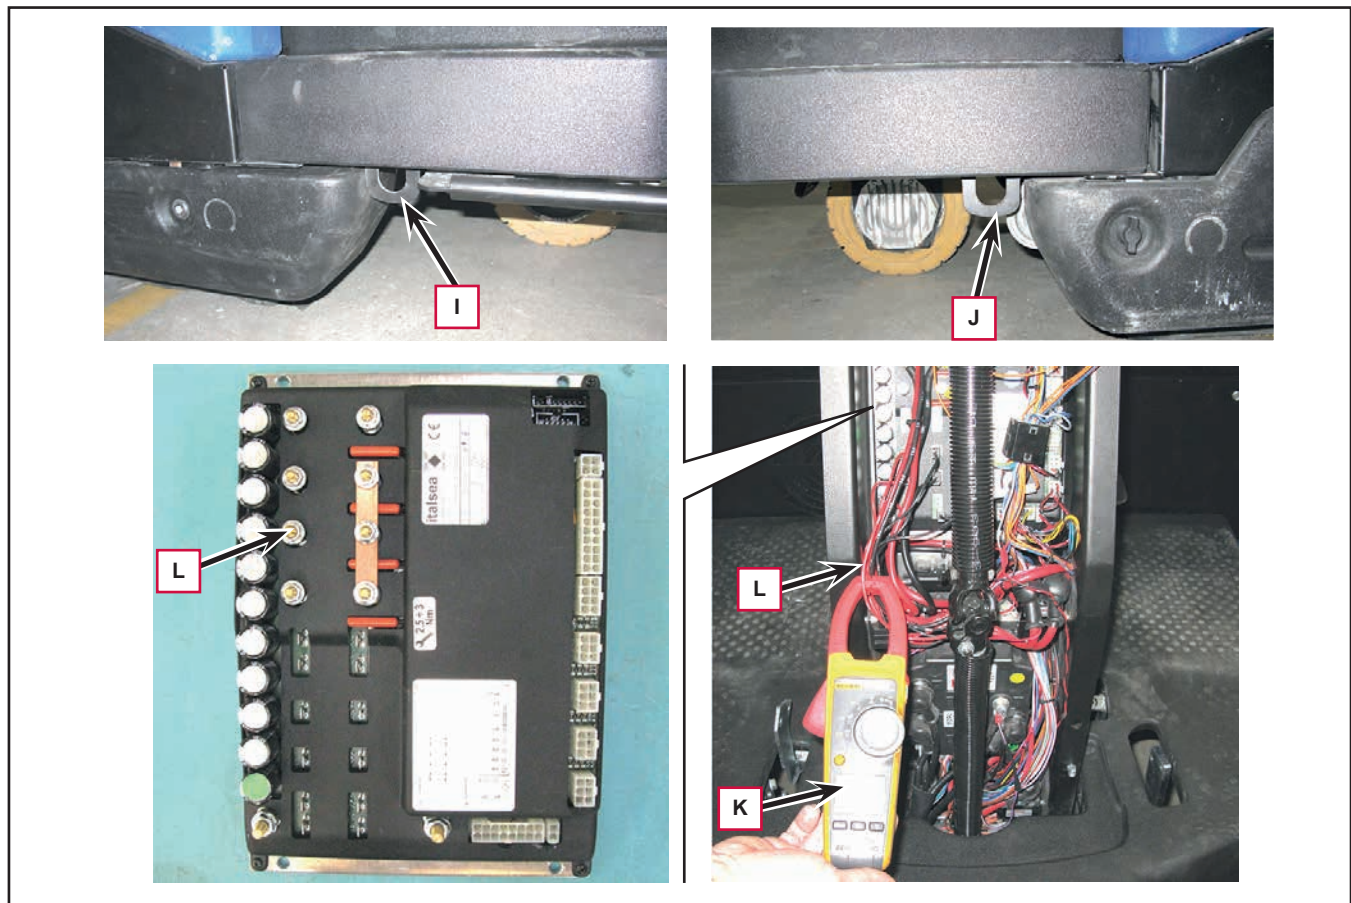

Figure 9
8. For safety purposes, to prevent accidental lowering of the machine, apply two suitable spacers under the right (I, Figure 9) and left (J) side brackets.
9. Apply the ammeter clamp (K) on a cable (L) of the main broom motor.
- Remove the ammeter clamp (K).